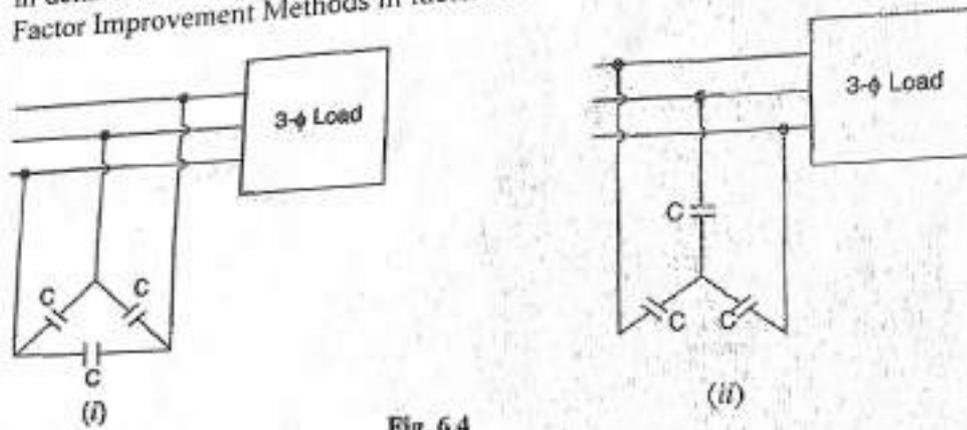

Fig. 6.4
1. Static capacitor: The power factor can be improved by connecting capacitors in parallel with the equipment operating at lagging power factor. The capacitor (generally known as static capacitor) draws a leading current and partly or completely neutralises the lagging reactive component of load current. This raises the power factor of the load. For three-phase loads, the capacitors can be connected in delta or star as shown in Fig. 6.4. Static capacitors are invariably used for Power Factor Improvement Methods in factories